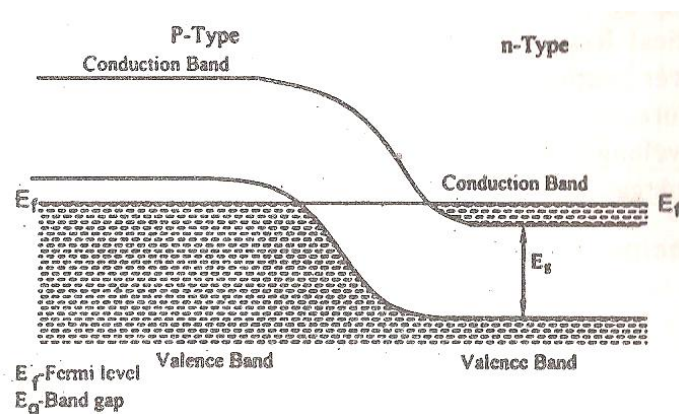

Fig. 3.18
1. The population inversion in a p-n junction is achieved by heavily doping 'p' and 'n' materials. So that the Fermi level lies within the conduction band of n type and within the valence band of 'p' type as shown in fig. 3.18